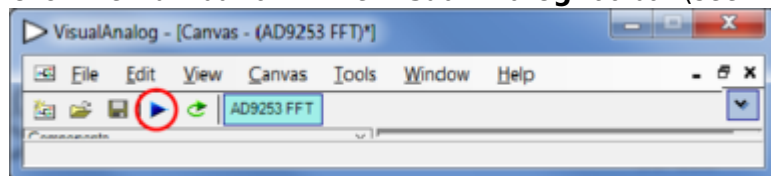

Figure 11. Run Button (Encircled in
- Click the **Run** button in the **VisualAnalog** toolbar (see Figure 11).
If the FFT window remains blank after **Run** in VisualAnalog (see Figure 11) is clicked, do the following: